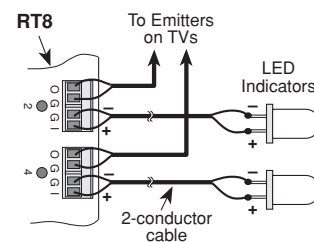

Fig. 5 Connecting LED Indicators to the "I" and "G" Terminals
10. The "I" and "G" terminals on each of the output terminal jacks are provided so that LED indicators, placed near each TV Monitor (if desired) will give a visual indication of the currently controlled Monitor. Refer to Fig. 5. Use LED's with an operating current rating of 10 to 20 mA.